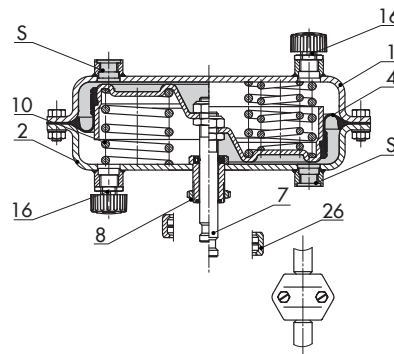
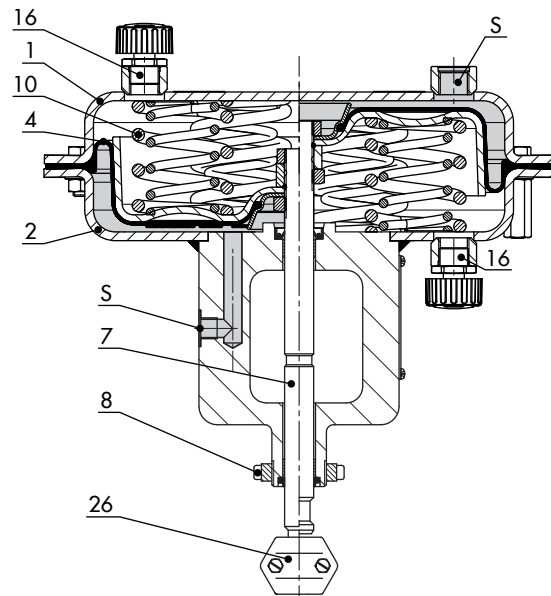
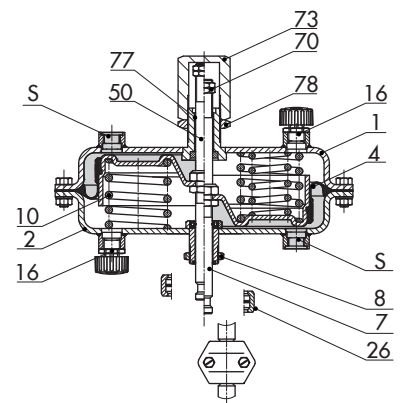

Fig. 7: Type 3271 - Right: with additional springs
Fig. 9: Type 3277 for direct attachment of accessories (350v2 cm²)
Fig. 13: Type 3271 with adjustable travel stop
- **Type 3271 · Travel stop** (Fig. 13), minimum and maximum travel mechanically adjustable in versions with 175v2 to 750v2 cm²
Actuators with 175v2, 350v2, 355v2 and 750v2 cm² actuator areas are designed with a full rolling diaphragm (see Fig. 9). The diaphragm of actuators with 350 cm² actuator areas is clamped-in (see Fig. 7).
The adjustable **mechanical travel stop** (Fig. 13) is suitable for actuators with actuator areas of 120, 175v2, 350, 350v2, 355v2 or 750v2 cm². Using the travel stop, the actuator travel can be limited by up to 50 % in both directions (actuator stem extends or retracts) and permanently adjusted.
Legend for Fig. 7 to Fig. 13